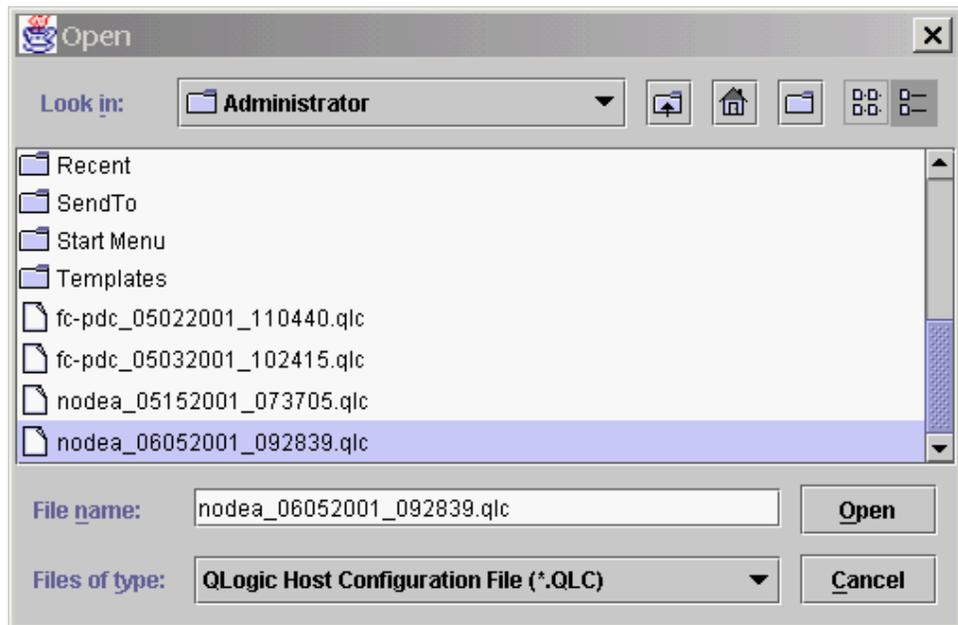

Figure 81. Open Window
2. In the Open window, click the file you want to load, and then click **Open** (see Figure 81).